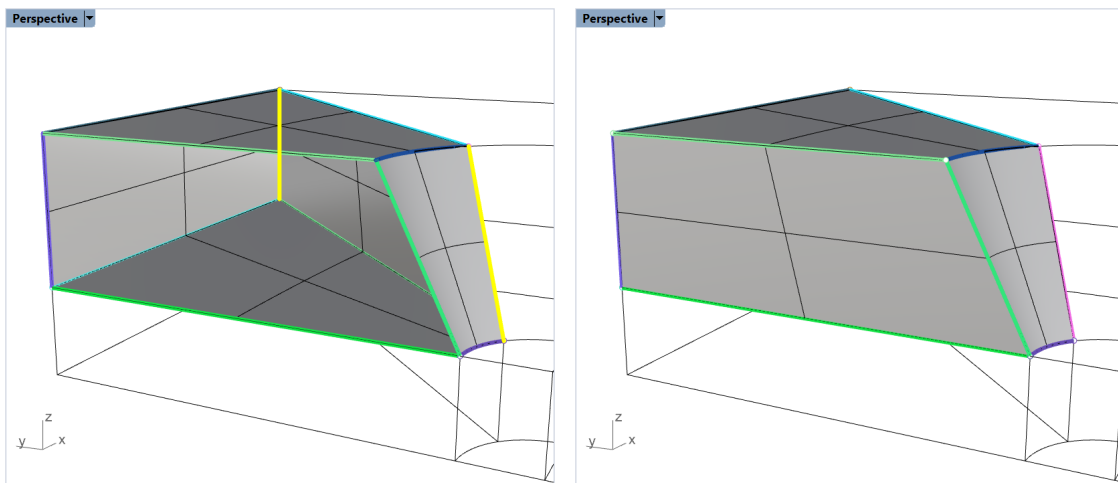

Figure 44: Building surfaces of the first solid.
15. Now, select only pairs of lines/curves composing the remaining surfaces of the first solid and **\_Loft** them. In total, six sides must be created as in Figure 44.